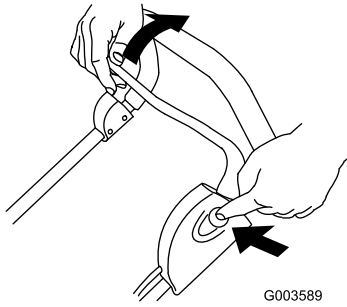

Figure 16
- While holding in the button, pull the control bar toward the handle (Figure 16).